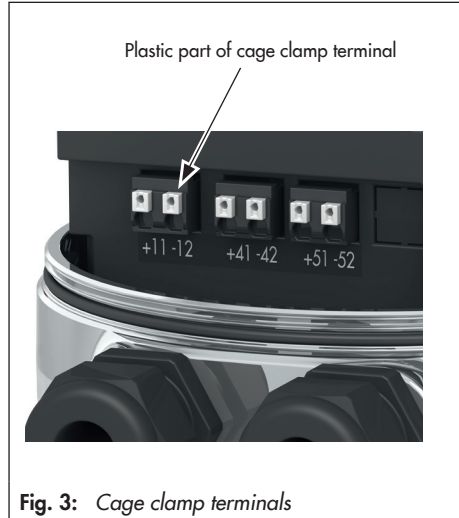

Fig. 3: Cage clamp terminals
- To unlock the cage clamp terminals: place a slotted screwdriver on the plastic part (Fig. 3) and **lightly** push it into the terminal block.